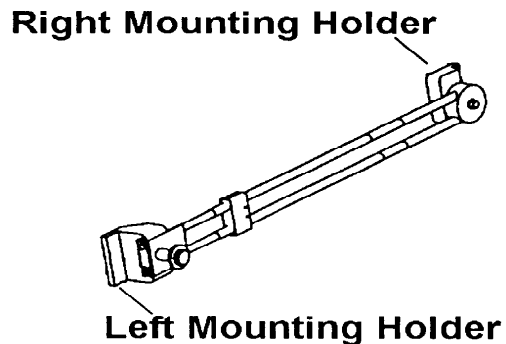

Figure 6
1. Install the left side mounting holder and 2 screws. Refer to Figure 6.
2. Install the right side mounting holder and guard bar assembly. Refer to Figure 6.